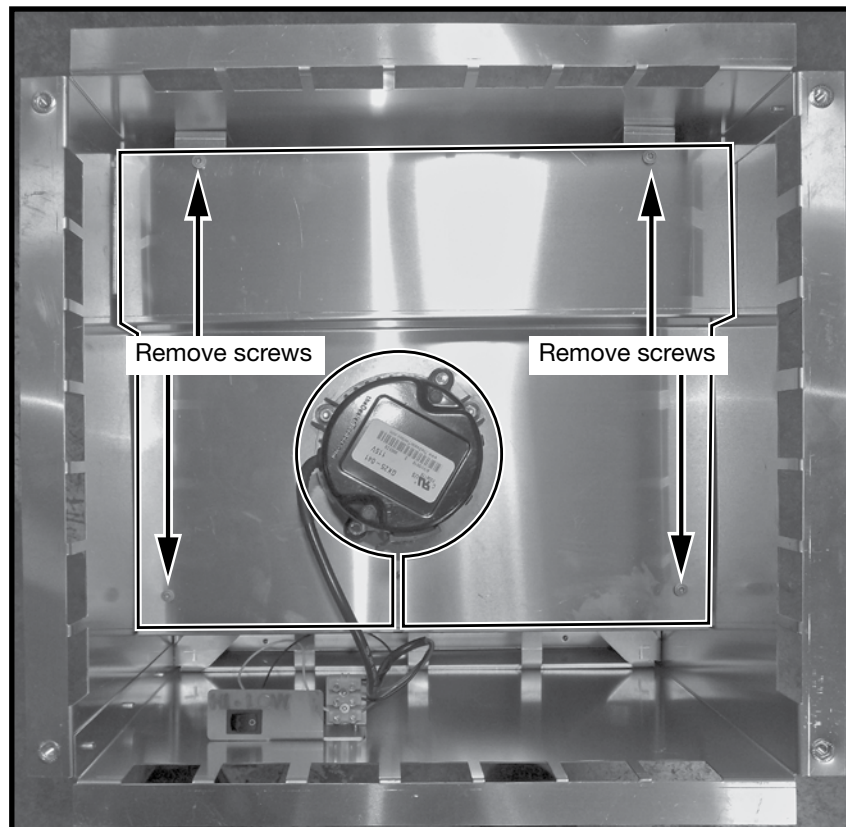

Figure 17: Internal cover plate.
2. Remove the internal cover plate (Figure 17) by removing 4 screws and slipping the plates slot around the motor wiring to remove. This exposes the electrical wiring entry point.